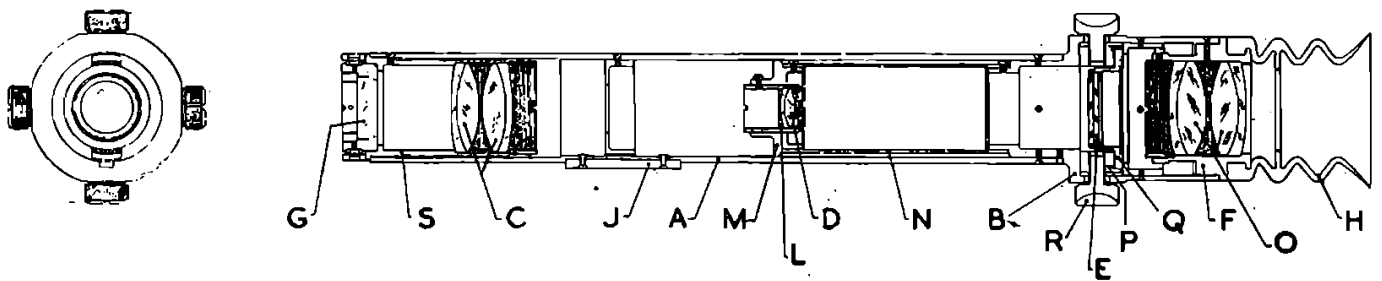

Figure 96. Telescope Sighting No. 33, Mark II S
This telescope is similar to the No. 33, Mark I.S., except for the locking device for the antagonistic screws which is dispensed with. It is also similar to the No. 39, Mark I.S. except for the graticule scale. It gives a field view of 21° and a magnification of 1.9 diameters. It consists principally of a body (A, Fig. 96), diaphragm box (B), object glass (C), erector lens (D), diaphragm (E), eye-piece (F) object glass protector (G) and eye-guard (H). The body is tubular to hold the components and is positioned in the mounting bracket by a key (J) fixed to its underside. At the eye end, the diaphragm box fits into the body, secured by four screws. Inside the body, the erector lens (D) in its cell (L), is held in an adaptor (M), which is positioned by a tube (N) screwed to the adaptor at one end, and the diaphragm box at the other. In the other end of the diaphragm box, the eye-piece (F) is screwed, and contains the lenses (O). Between the eye-piece and the erector lens is the diaphragm (E), held by four screws (P) and an adaptor (Q), the screws (P) being drilled and tapped radially, and held by four finger screws (R) passing through the diaphragm box. Fibre washers under the heads of the finger screws, seal the holes in the diaphragm box. By operating the screws antagonistically, the diaphragm is moved to collimate the telescope. The corrugated rubber eye-guard (H) fits over the end of the eye-piece in a groove. The object glass (C) is held and positioned by a tube (S) fitting into the other end of the body. The object glass protector (G) fits into the end of the telescope, and is known as the No. 3, Mark I. This comprises a cell holding a glass disc. It is inserted in the end of the telescope by compressing the retaining springs, which seat in an internal groove in the object glass tube.